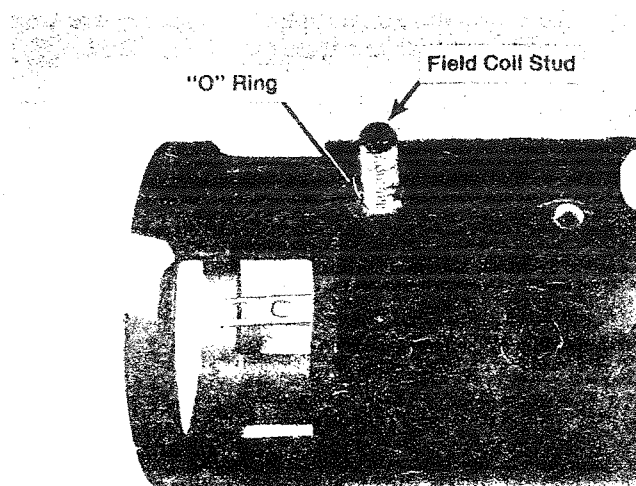

Figure 16
2. Press 5/8" OD insulation bushing on field coil stud as far as it will go. Slide the "O" ring on the field coil stud so it fits flush with the field ring. Figure 16.